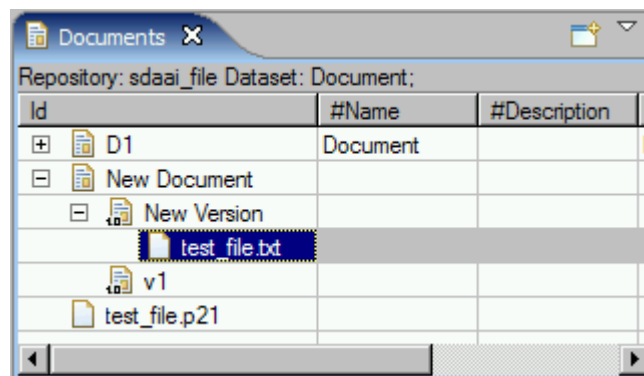

Figure 3. Added file reference under the document version node
- The associated file reference appears in the tree (see Figure 3).